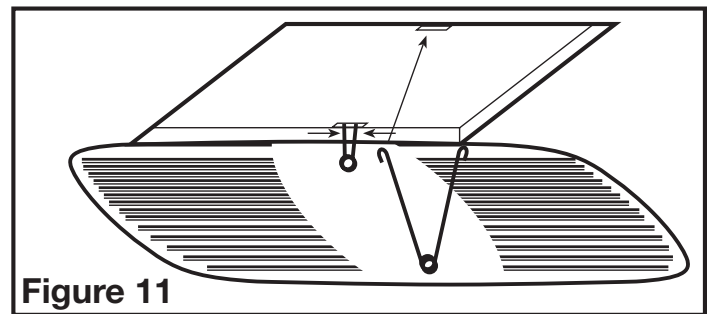

Figure 11
4. Install the grill by squeezing the two ends of the springs together and installing them up into the slots on the fan's housing. Push the grill up into position (**Figure 11**).